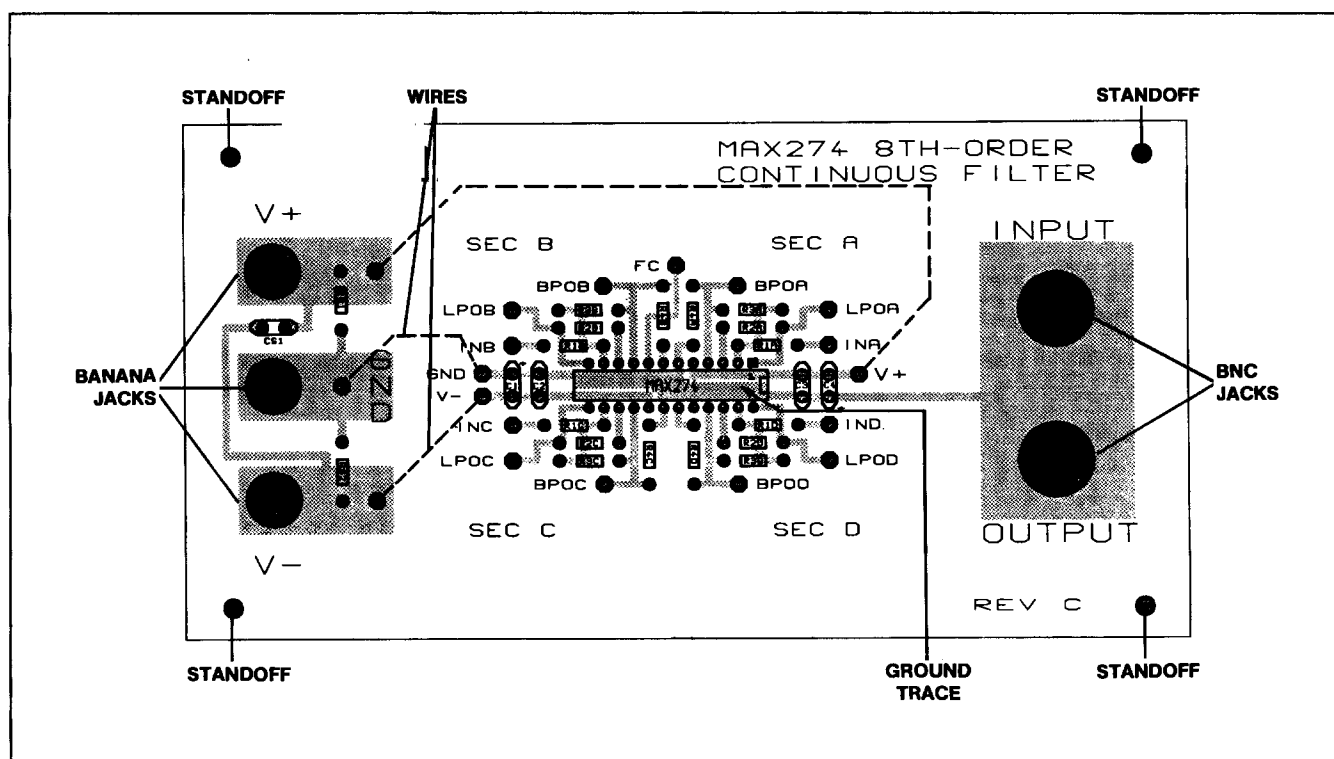
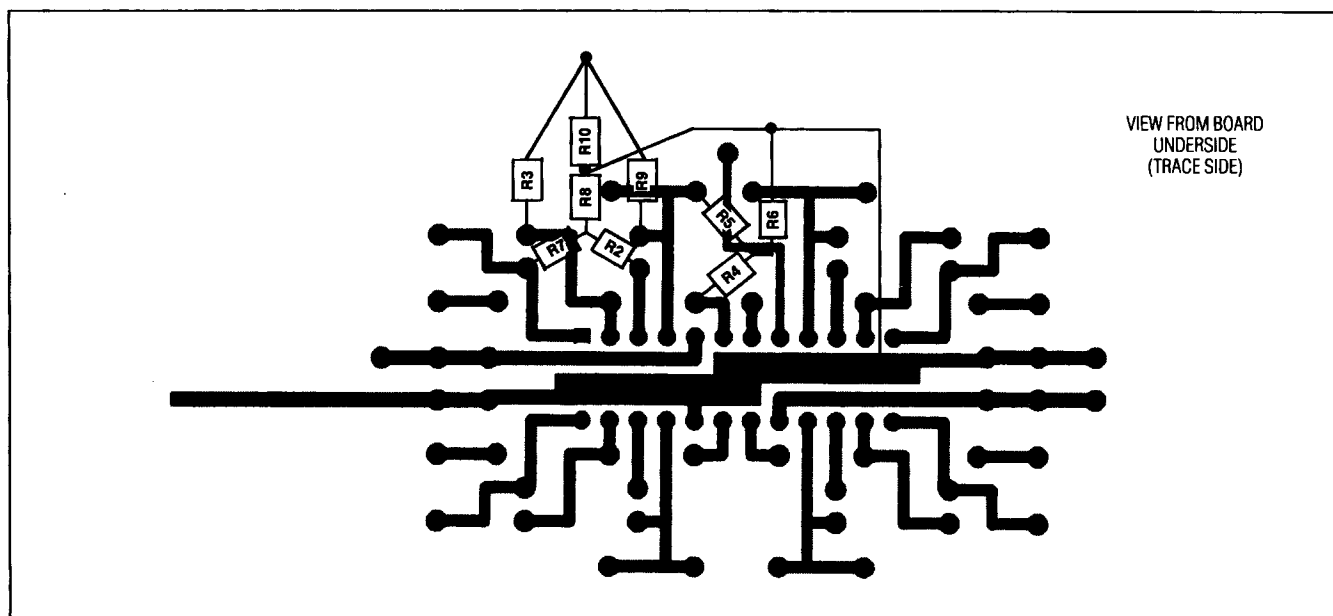

Figure 2. MAX274 EV Kit Component Placement Diagram
Figure 3. T-Network PC Board Connections
1. Install BNC connectors and banana jacks as shown in Figure 2. Connect wires from the V+, GND, and V- jacks to the nodes designated V+, GND, and V- on the circuit. Install MAX274 IC as shown (or install an IC socket if desired).
On the PC board, scratch off the green soldermask from the ground trace (Figure 2). Where required, substitute each normal resistor connection (R2, R3, or R4) with three T-network resistors on the underside of the board, using jumper wire to connect the T-network ground connection with the ground trace on the PC board (Figure 3).
where FPK is the frequency at which the gain at BPOA is greatest (this may not be equal to  $F_0$ ); and the -3dB bandwidth is the difference between the two frequencies at which BPOA is attenuated by 3dB from its peak gain. Repeat these measurements for filter sections B, C, and D. For more information, refer to Figure 2 of the MAX274 data sheet, *Bandpass Output*.